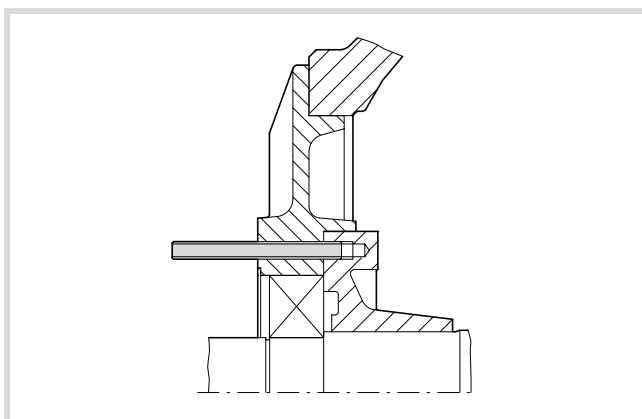

Figure 30: Screwing in a threaded bolt
- ▶ For easier fitting, screw a threaded bolt in one of the tapped blind holes of the inner bearing cover (→ Fig. 30).
① Greasing channel
- ▶ Screw in at least one bearing cover fastening screw before removing the threaded bolt (→ Fig. 30).